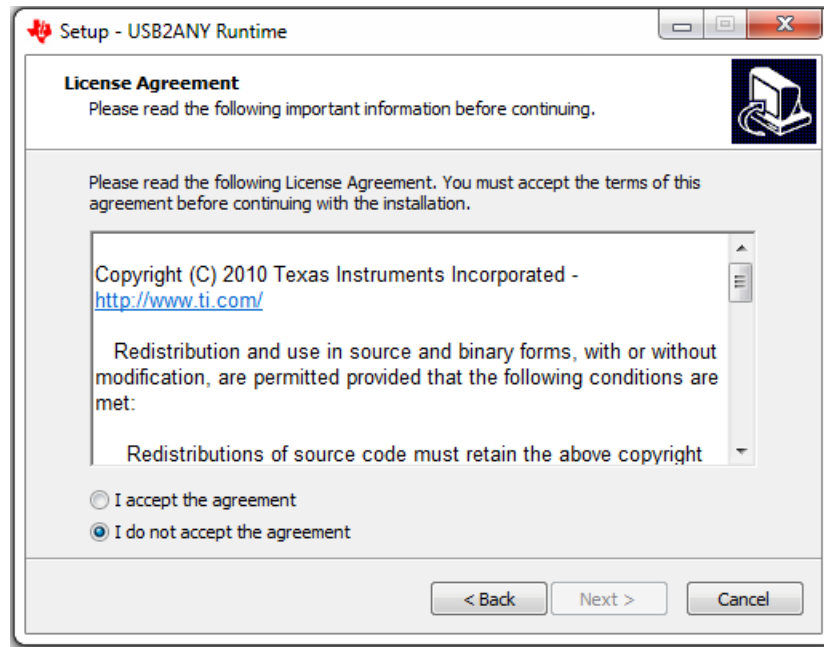

Figure 19. USB2ANY License Agreement
10. The *License Agreement* appears, as shown in Figure 19. Read through the agreement carefully and enable the *I Accept the License Agreement* radio button, then press the *Next >* button.